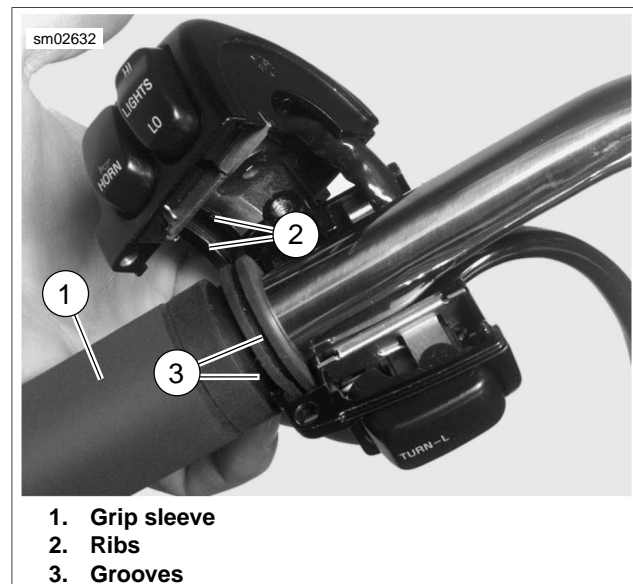

Figure 8-90. Left Handlebar Switch Housings
2. See Figure 8-90. Install upper and lower switch housings on handlebar. Be sure that ribs (2) on outboard side of switch housings fit in grooves (3) molded into grip.